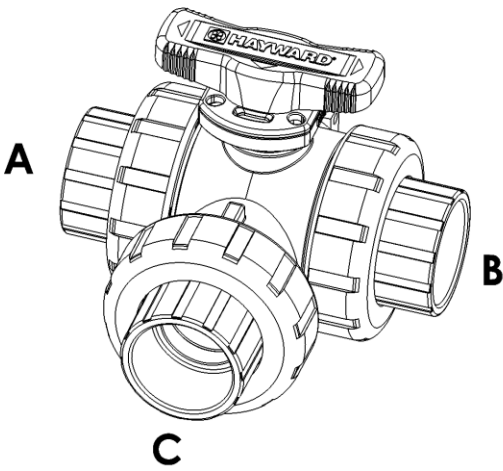

Figure 2: Port Definition
2.6.1.2. Port C is a non-sealing port (See Figures 2 & 3).